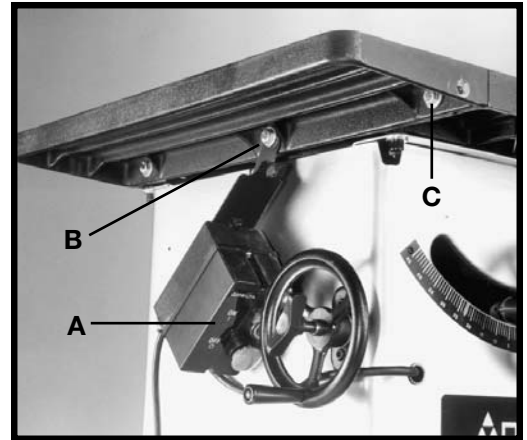

Fig. 6
1. The on/off switch (A) Fig. 6, is shipped attached to a mounting bracket at the left side of the machine.
2. Remove screw and flat washer (B) Fig. 6, that is holding the switch and bracket to the machine. Remove the switch from the side of the machine. Replace screw and flat washer (B). **WARNING: DO NOT REMOVE SCREWS (B) AND (C) AT THE SAME TIME.**